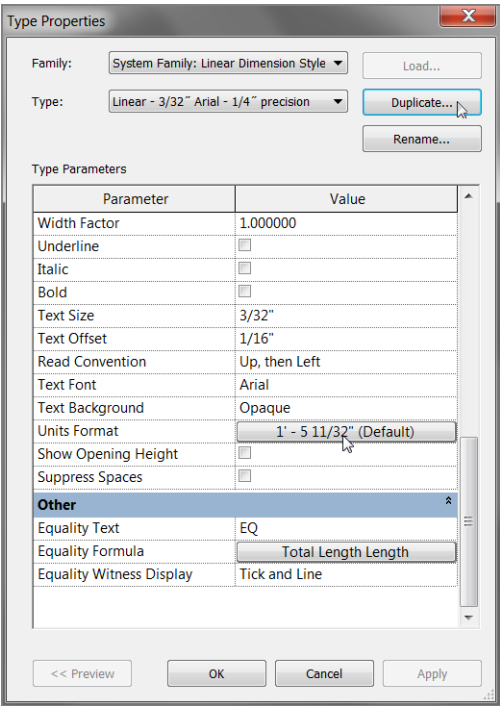

FIGURE 5.14 : Select the button in the Text category to access the dimension’s precision.
3. Click the Duplicate button, as shown in Figure 5.14.
5. Scroll down to the Text category. Near the bottom is a Units Format row with a button that displays a sample increment. Click it (see Figure 5.14).